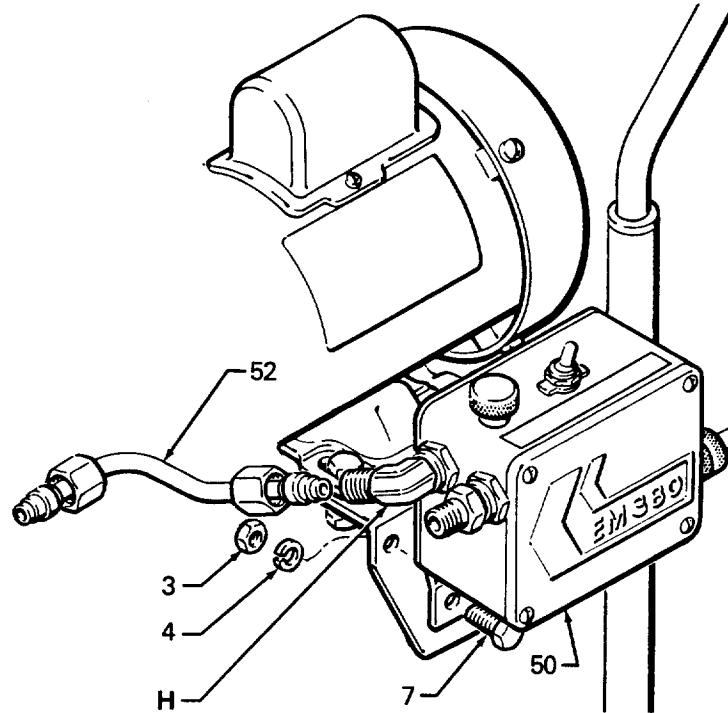

Fig 10
Disconnect tube (52) from elbow (H). See Fig 10.